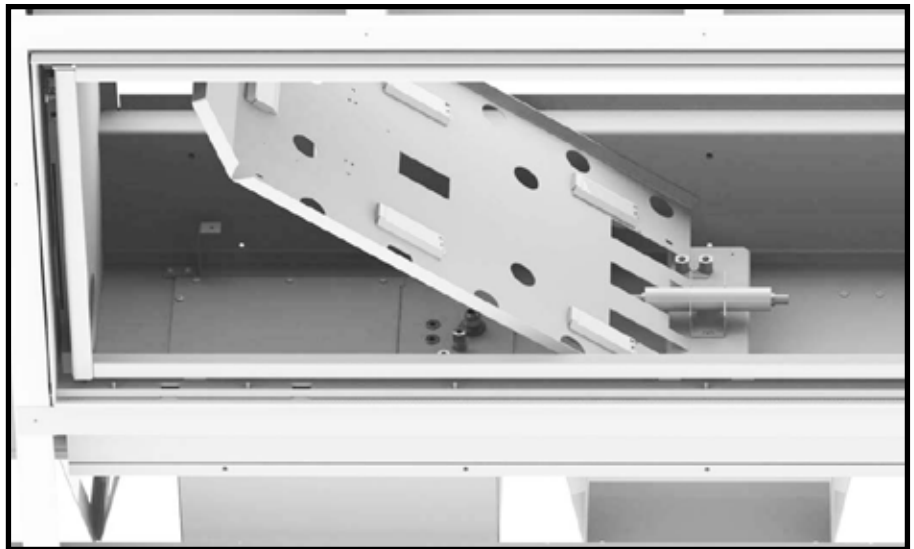

Figure 73: Installing one half of secondary floor.
3. On the bulkhead side, tilt the floor approximately 45 degrees and insert the wires from the floor through the rubber grommet in the bulkhead plate (Figure 73).